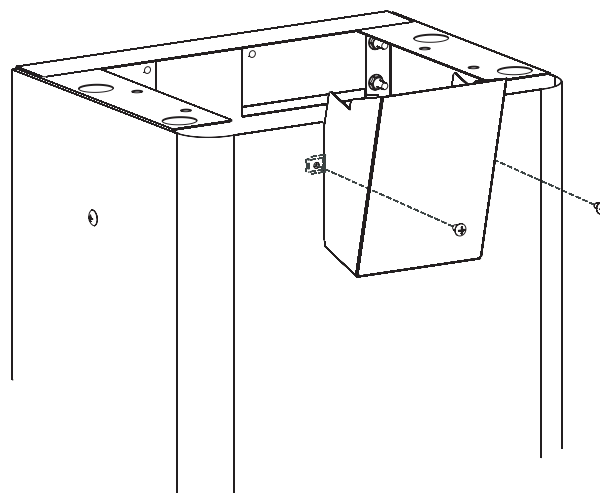

FIGURE 14
Slide the mounting tabs on the control housing (7) behind the opening on cart. Allow the control housing to rest at bottom of opening on cart. Figure 14.
Align the holes in the front of the cart with the nuts on the control housing (with the mounting tabs positioned inside the cart) and attach with two 10-24x3/8 phillips head screws. Figure 14.